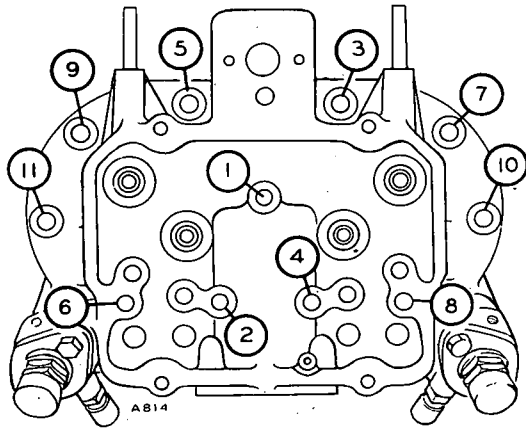

FIGURE 48. HEAD TIGHTENING SEQUENCE
7. Tighten the head bolts to half torque value (*ASSEMBLY TORQUES AND SPECIAL TOOLS* section) following sequence in Figure 48.